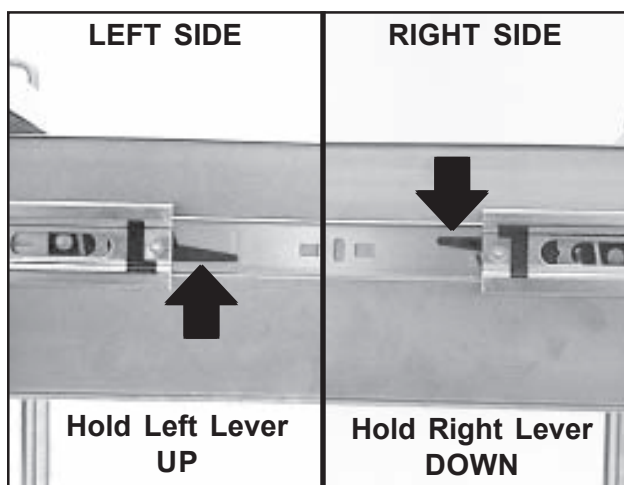

Figure 4. Drawer Locking Levers
2. While supporting the drawer from below, hold the left locking lever up, and the right locking lever down (Figure 4).